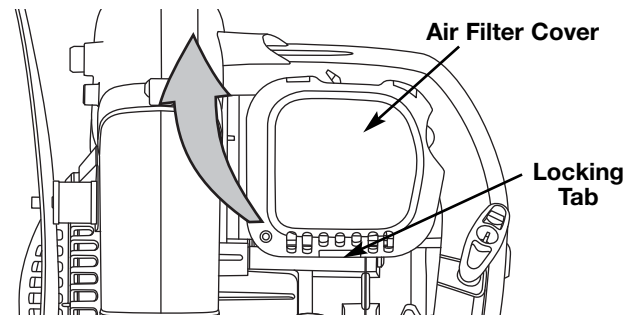

Fig. 24
1. Open the air filter cover. Push the locking tab on the under side of the cover inward. Then pull the air filter cover out and up. (Fig. 24).